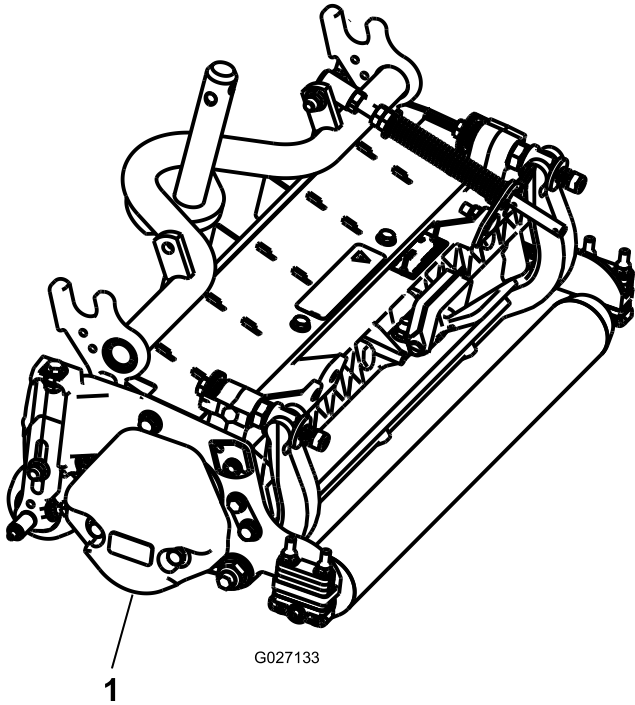

Figure 3
3. Make sure that the counter weight (Figure 3) is installed to the proper end of the cutting unit as described in the counter weight kit *Installation Instructions*.